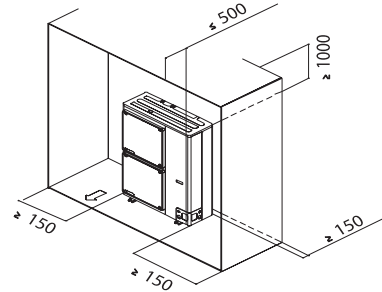

Figure 5
- Obstacles exist at the air intake ,left and right side (see Figure 5)